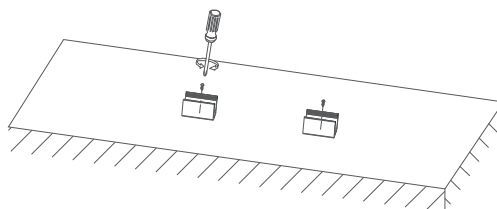

Figure 1
Connection diagram for RGB: as figure 1, use power cabinet(waterproof, moisture proof, dust proof)the cabinet can hold one or more control powers.
1. Fixed the clip in the place where the neon flex installed, as shown in Figure 1